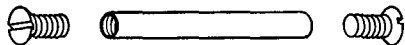

fig. 6
- 20 interlocking bar-holes:** Two, three, or four switches can be mechanically interlocked by inserting appropriate interlocking bar. (Fig. 6).